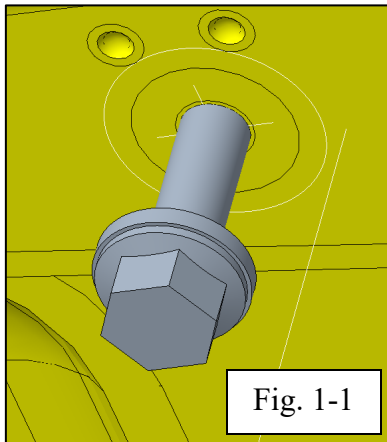

Fig. 1-1
- (b) Using a 12mm socket, remove & discard twelve OE Hex bolts from underneath the vehicle, 6 per side (Fig. 1-1, Fig. 1-2)